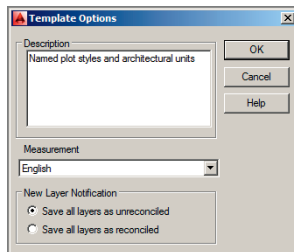

FIGURE 14.8 Describing the template
- 6. Type **Named plot styles and architectural units** in the Template Options dialog box that appears (see Figure 14.8). Click OK.